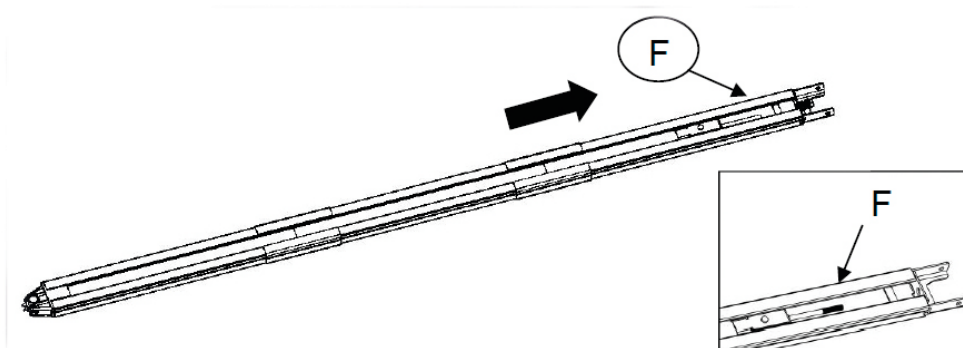

Figure 9
2) Cut the plastic thread; pull the screw rod along with inner chain to the end rail position (Figure 9)